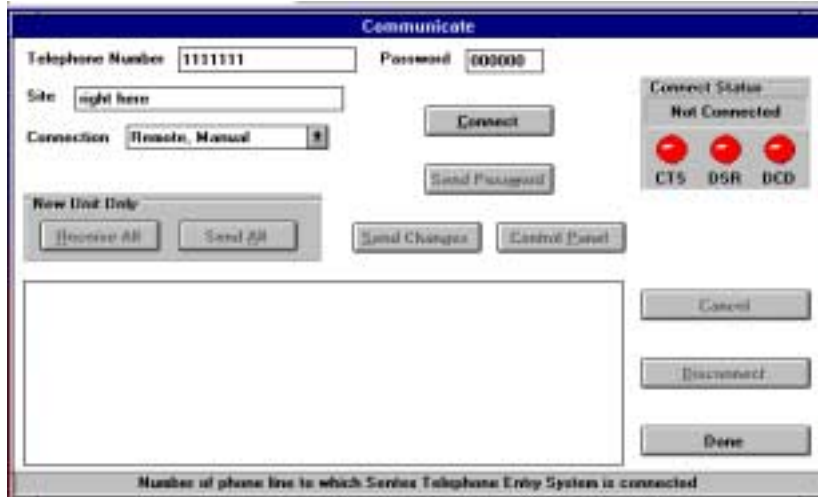

Figure 11. Communicate Screen
4. From the Work On An Existing Unit screen in the Misc. Actions panel, select Connect to Unit. The Communicate screen is displayed (figure 11).